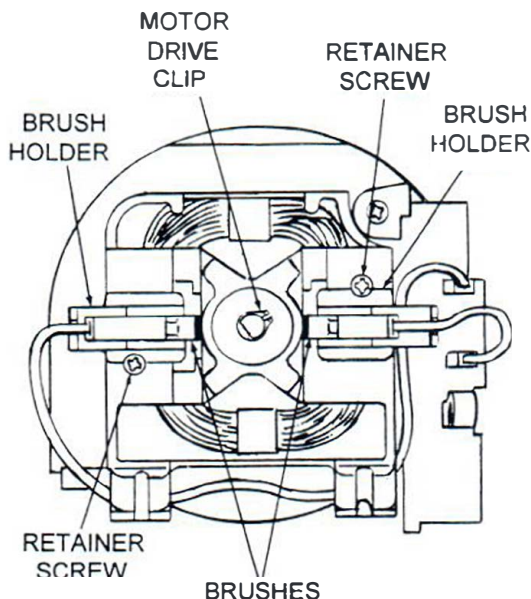
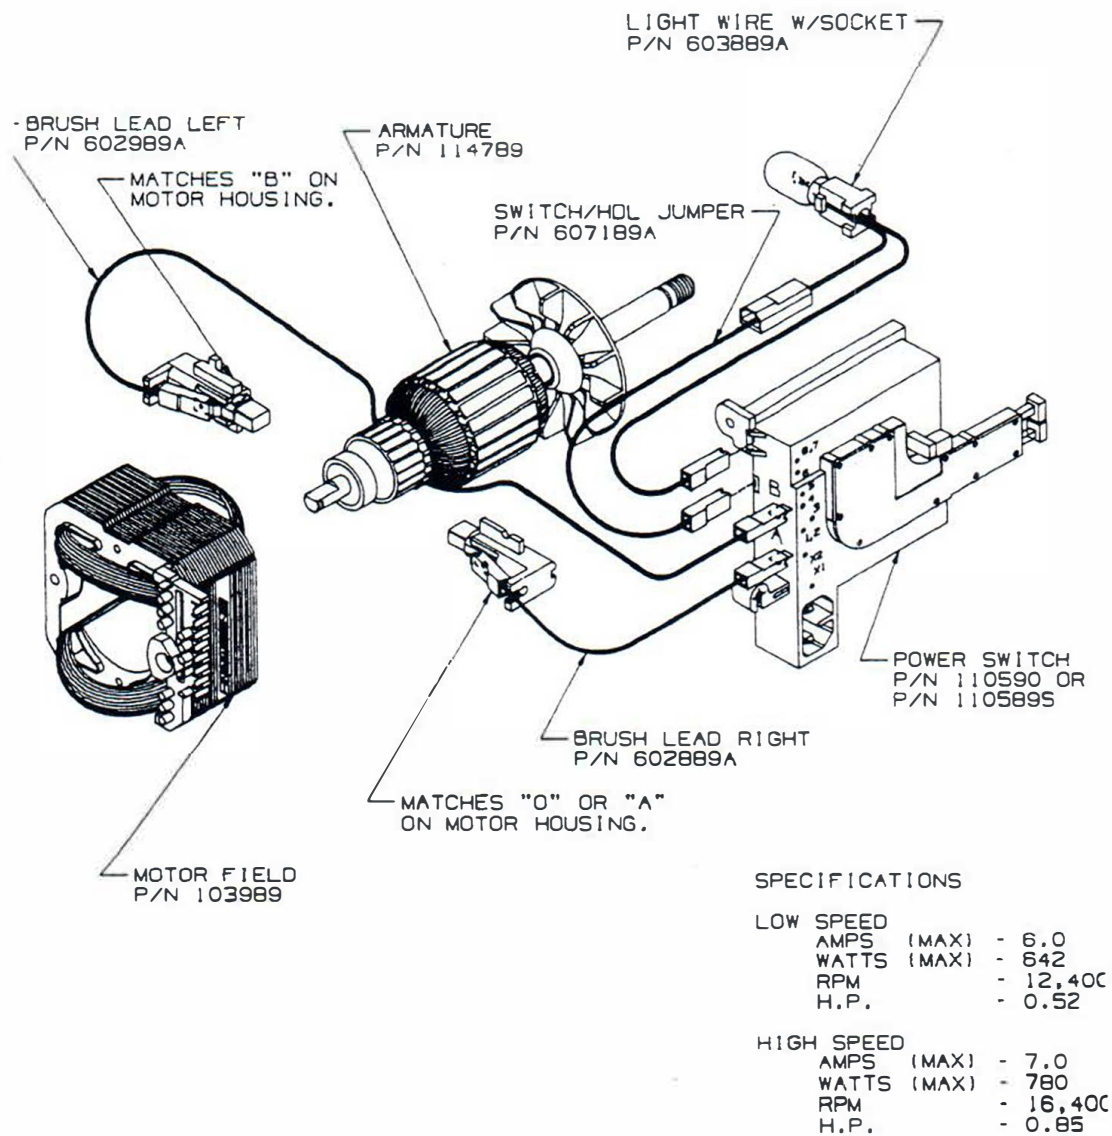

Figure 26 Carbon Brush Cartridge Replacement
Figure 30. Pictorial Schematic
- A. See Figure 26. If carbon brushes are to be reused, mark the brush holder assembly that is closest to the power switch with an "S". Reinstall brush holder assemblies in same positions from which they were removed.
- A. See Figure 26. Using T154, snap ring expander pliers No. 0200, remove motor drive clip at rear of armature shaft.
Refer to Figure 30, pictorial schematic, for proper wire routing, and section 5.6.3. and Figure 26, for carbon brush cartridge assembly positioning and wire routing.
- F. Install right brush lead wire from brush cartridge to lower switch terminal noted "O" on power switch. Refer to Figure 30, pictorial schematic, for proper wire routing, and section 5.6.3 and Figure 26, for carbon brush cartridge assembly positioning.